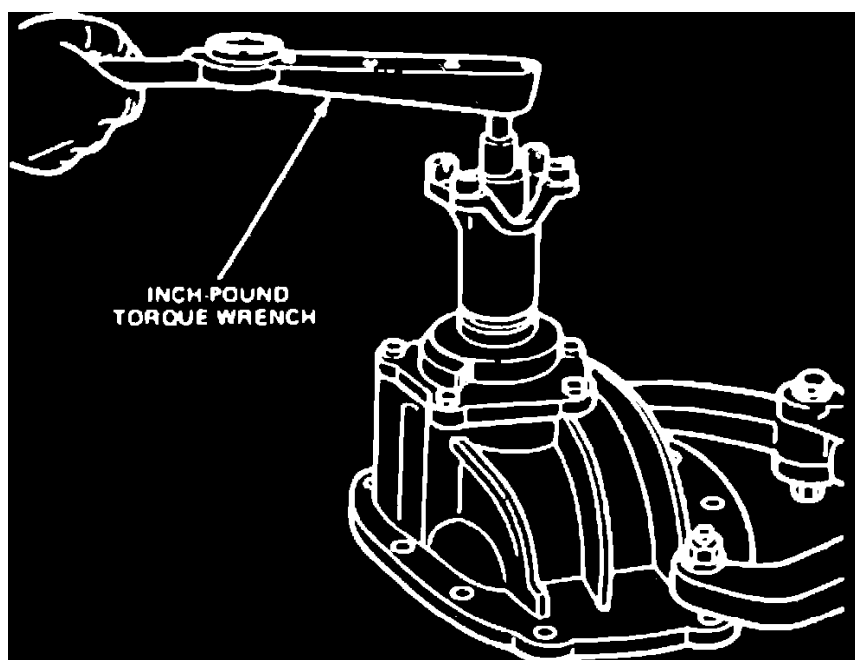

Fig. 9 Checking Pinion Bearing Preload
10. Check pinion bearing preload, **Fig. 9**. Correct preload is obtained when torque required to rotate pinion in retainer is 8---14 inch lbs. for original bearing or 16---29 inch lbs. for new bearing. If torque required to rotate pinion is less than specified, tighten pinion shaft nut a little at a time until proper preload is obtained. **Do not over tighten nut. If excessive preload is obtained as a result of over tightening, replace collapsible bearing spacer. Do not back off pinion shaft nut to establish pinion bearing preload.**